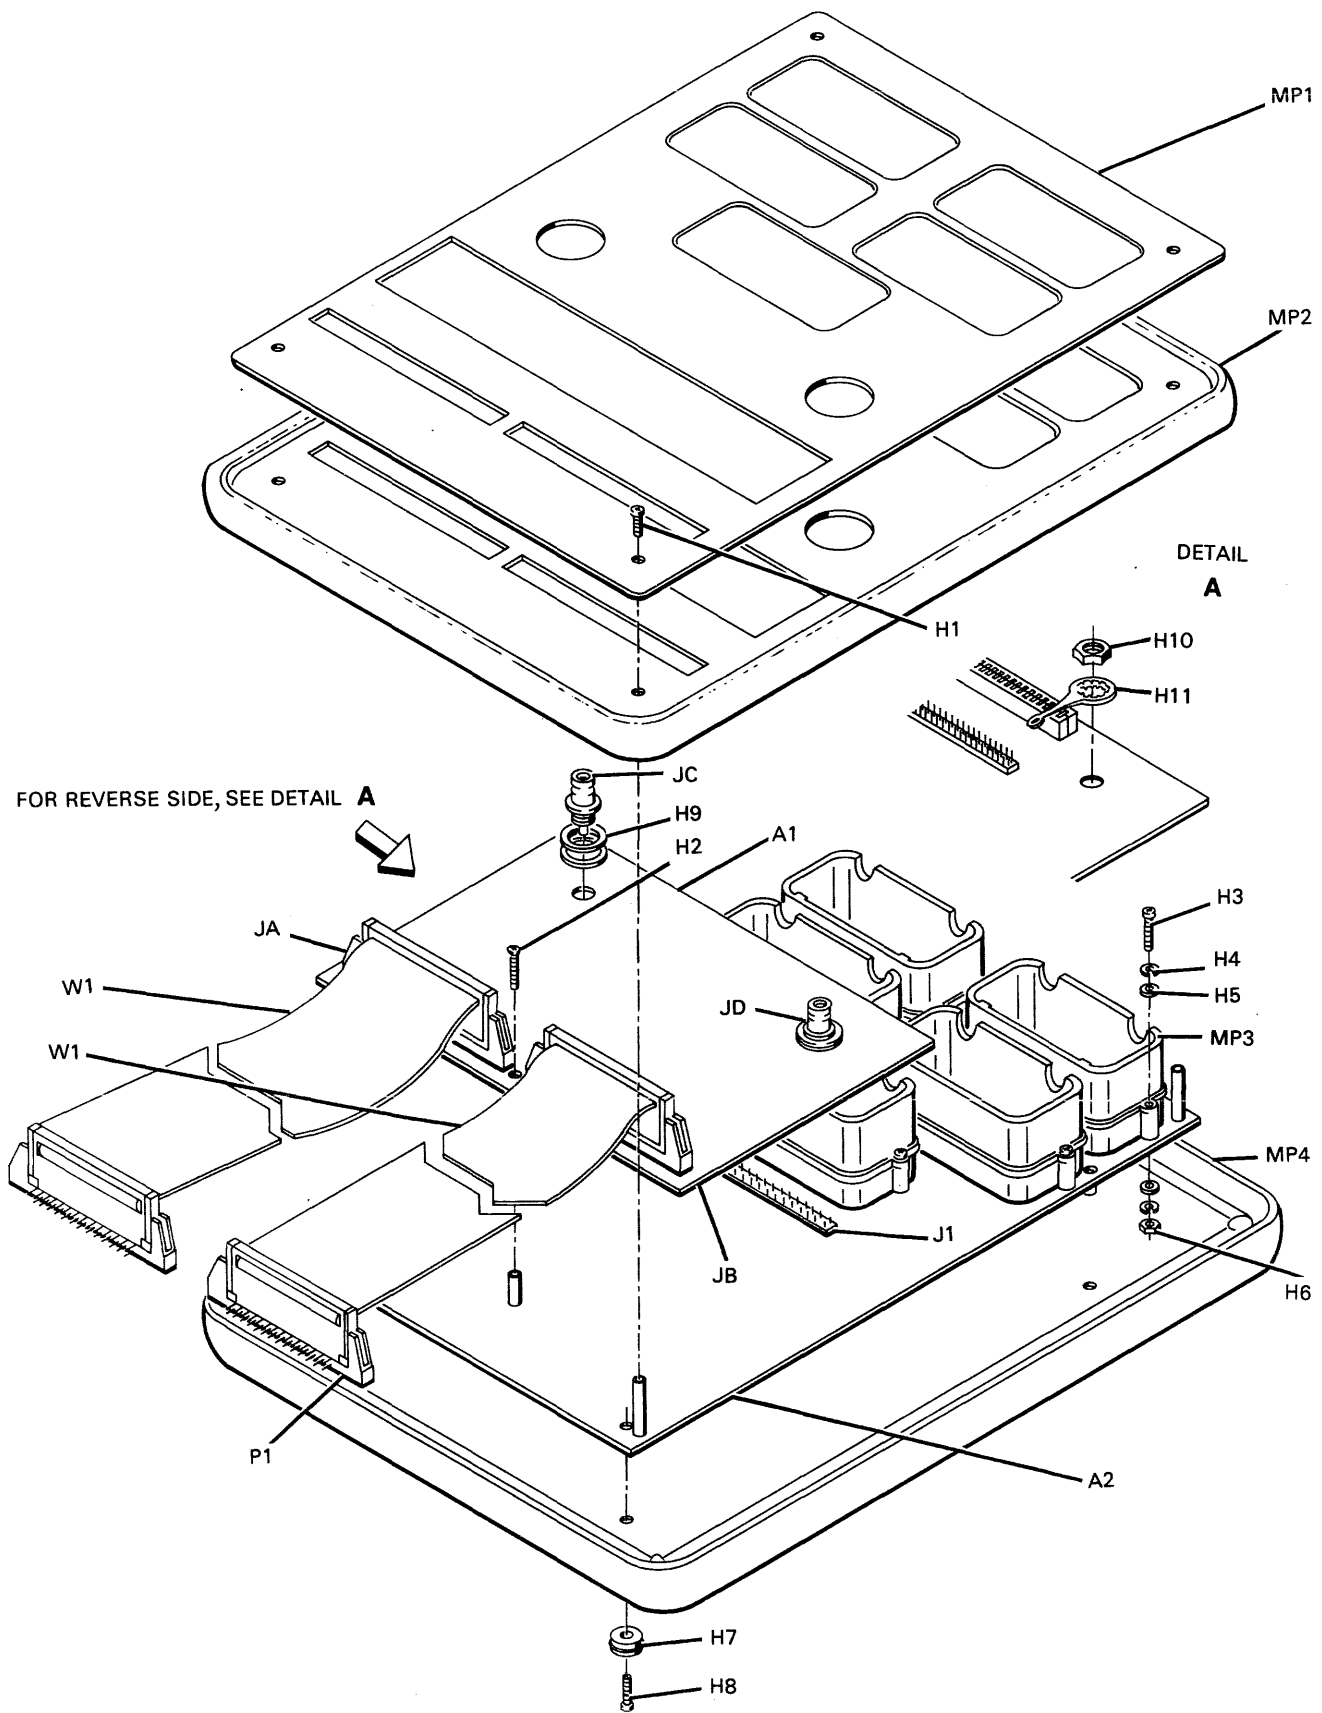

Figure 5. Replaceable Parts
17. Replaceable parts are listed in table 6 and illustrated in figure 5.